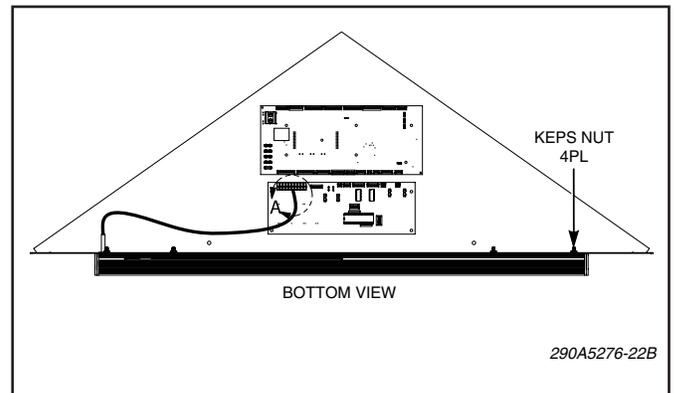

Figure 6-7.
3. See figure 6-7. Remove the 4 Keps Nuts securing the Signalmaster to the cover. Remove the Signalmaster.